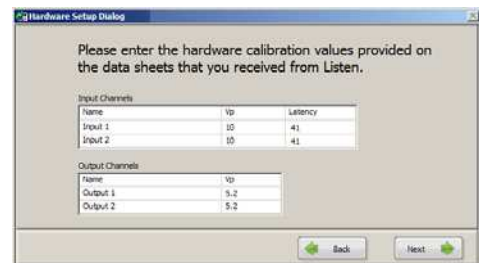

Figure 6: Manual Entry
- Select **Manual Entry** to enter the values in a table as shown in Figure 6